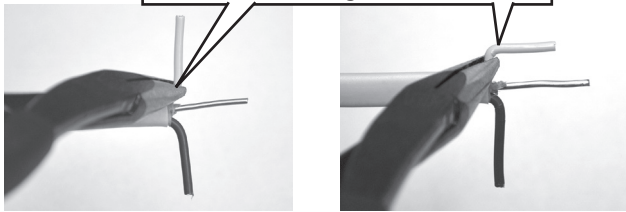

FIG. 24
- Carefully strip and prepare 120 Vac supply wire. See (FIG. 21), (FIG. 22), (FIG. 23), (FIG. 24), & (FIG. 25).